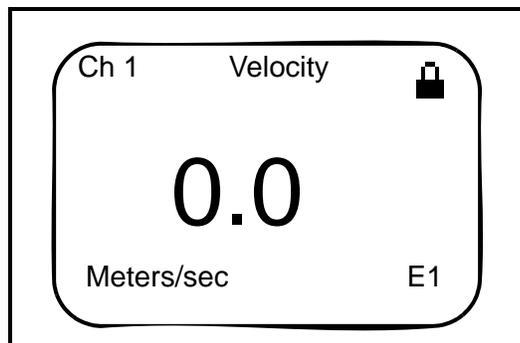

Figure 31: UTX878 Screen with Locked Program
5. Press [ESC] to return to the User Program, or continue pressing [ESC] to return to the display screen. If you have chosen to fully lock the UTX878, the screen appears similar to Figure 31 below, with a solid lock in the upper right corner. (For a meter with only the user program locked, the lock shows a keyhole in the center.)